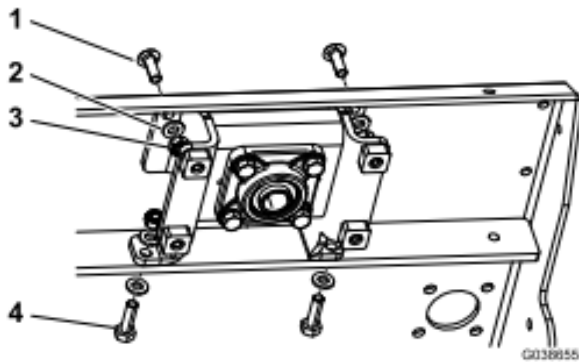

Figure 7
- Using 4 carriage screws, 4 bolts (M10 x 35 mm), 8 locknuts (M10), and 16 washers (M10), secure the roller supports to the frame (Figure 7).